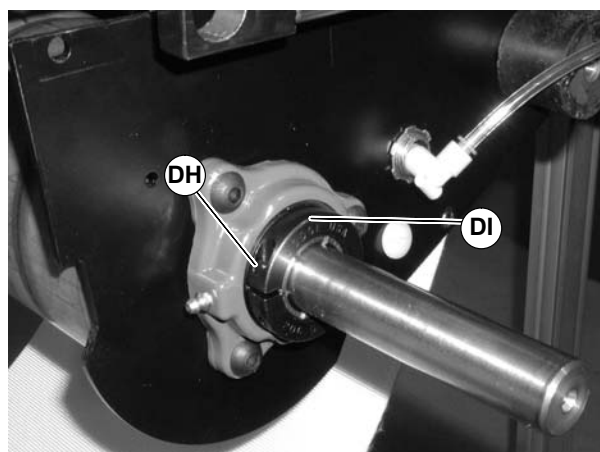

Figure 97
6. Loosen clamp screw (DH of Figure 97) and remove bearing collar (DI).